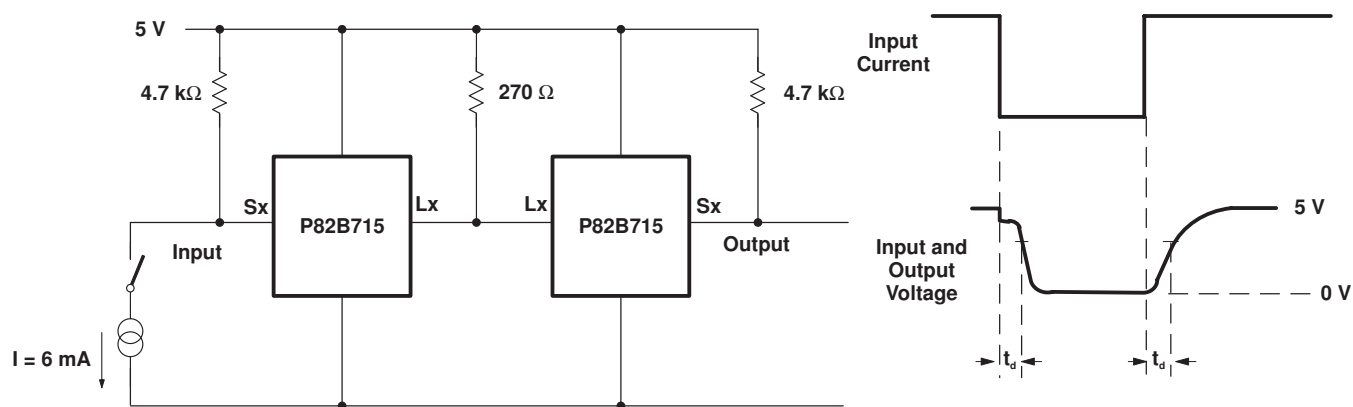

Figure 2. Test Circuit for Delay Times
- (1) A conventional input-output delay is not observed in the S_x/L_x voltage waveforms, because the input and output pins are internally tied with a 30- Ω resistor so they show equal logic voltage levels to within 100 mV. When connected in an I²C system, an S_x/S_y input pin cannot rise/fall until the buffered bus load at the output pin has been driven by the internal amplifier. This test measures the bus propagation delay caused to falling or rising voltages at the L_x/L_y output (as well as the S_x/S_y input) by the amplifier's response time. The figure given is measured with a drive current as shown in Figure 2. Because this is a dynamic bus test in which a corresponding bus driving IC has an output voltage well above 0.4 V, 6 mA is used instead of the static 3 mA.
- (2) The signal path L_x to S_x and L_y to S_y is passive via the internal 30- Ω resistor. There is no amplifier involved and essentially no signal propagation delay.